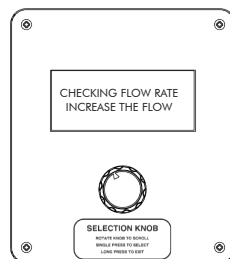

fig. no.26.3
- **FLOW CHECK** (fig. no.26.3)